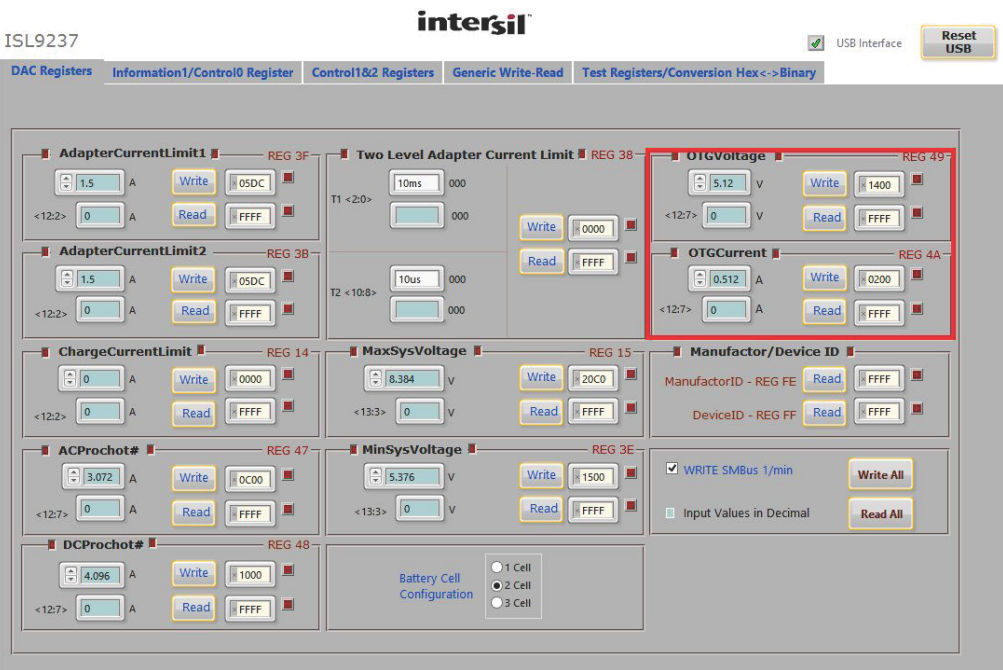

FIGURE 4. OTG VOLTAGE AND CURRENT SETTING IN GUI
4. Open the Intersil ISL9237 GUI, The OTGVoltage is the voltage value for load side, as shown in Figure 4 on page 5, and the OTGCurrent is the OTG output current limit at load side. These values can be set as needed by the customer, within the output limit range. For their value range, please refer to the ISL9237 datasheet.